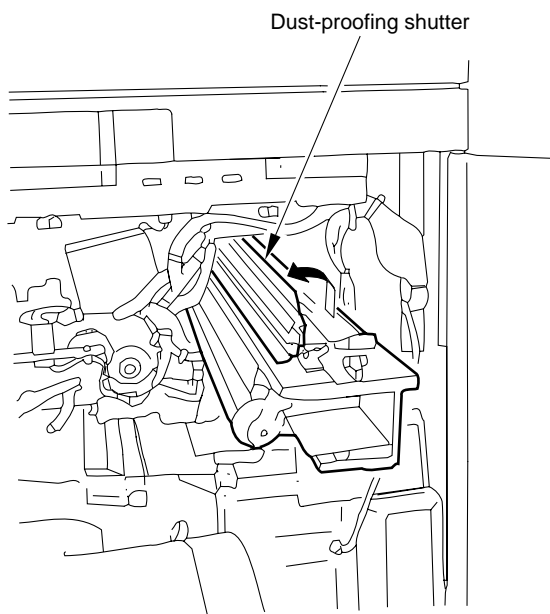

Figure 4-603
- ① Clean the developing assembly rail before inserting the developing assembly into the copier.
- ② When inserting the developing assembly into the copier, be sure that the dust-proofing shutter is opened in the direction of the arrow (Figure 4-603).